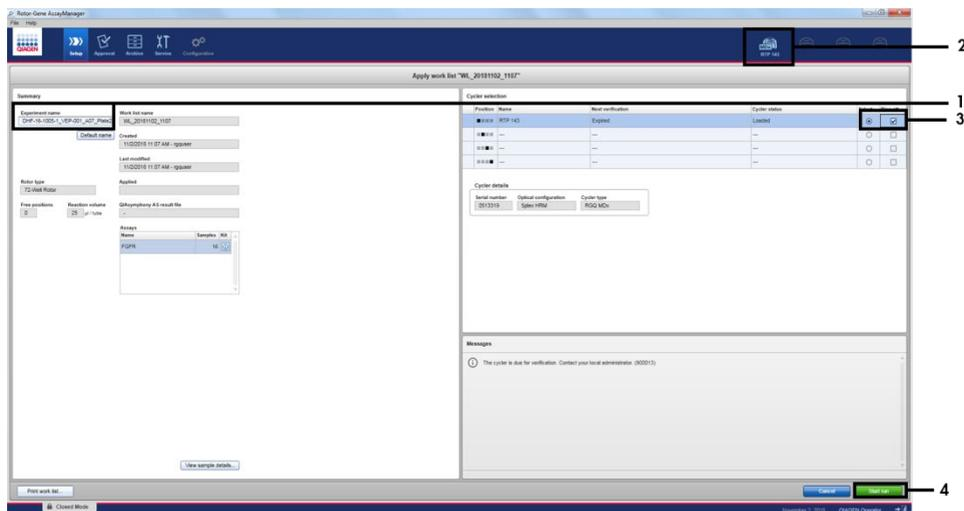

Figure 12. Applying work list and run start. 1 = Enter experiment name, 2 = Current status of instrument, 3 = Select the instrument, 4 = Start run.
8. Enter the experiment name in the **Experiment name** field. Select a cyclers from the list of available cyclers and ensure that the **Ring attached** box is checked. Once all steps have been performed, click **Start run**. A progress indicator will appear below the Rotor-Gene Q 5plex HRM icon at the top right of the screen to indicate that the run has started (Figure 12).